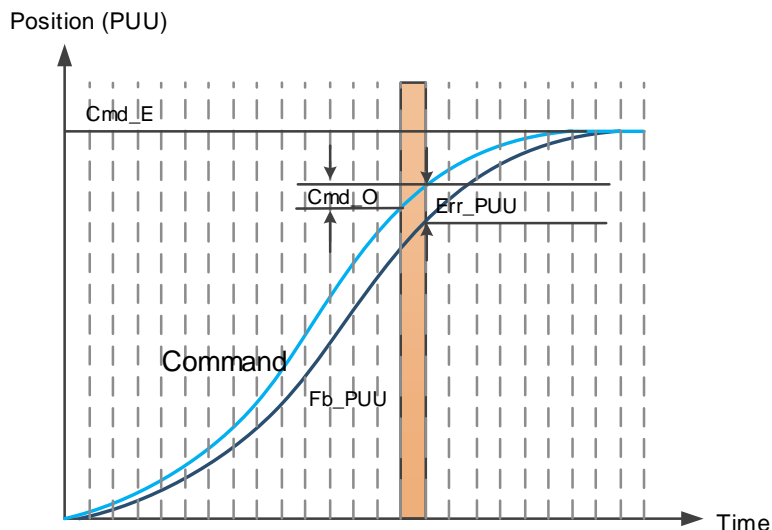

Figure 7.1.2.2 Monitoring variables status when a command is executed in PR mode
You can use the digital input (DI) to call and the digital output (DO) to monitor PR paths (refer to Table 8.1 and 8.2 for DI/O function descriptions). When you trigger the motion command with DI.CTR_G [0x08], the servo operates based on the command from the internal registers. Once the execution is complete, DO.Cmd__{OK} [0x15] (PR Position command complete) is set to on. When the position deviation (pulse number) becomes smaller than the value of P1.054, DO.TPOS [0x05] (Motor reaches the target position) is set to on. Then, both DO signals are on and the servo outputs the MC__{OK} [0x17] signal to signify that it has completed this PR path. The operation is as shown in Figure 7.1.2.3. If you have set a delay time in this PR and the position deviation (pulse number) is smaller than the value of P1.054, DO.TPOS [0x05] is set to on.